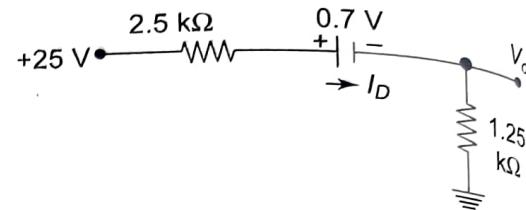

Fig. 2.11
- (a) Converting current source to voltage source and diode by its circuit model, we get the circuit of the adjoining figure (Fig. 2.11).